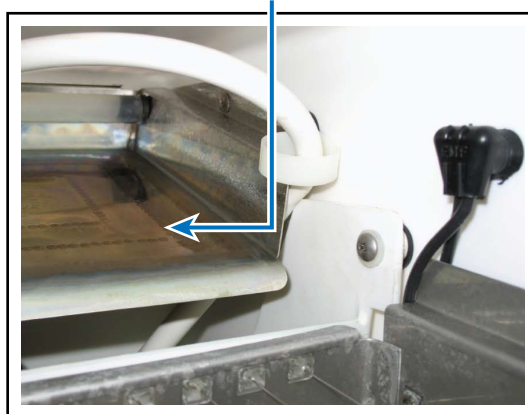

Figure 23
5. Route water line from circulation pump between liner and reservoir and through clamp attached to evaporator. This will keep it away from path of ice slab (see **Figure 23**).